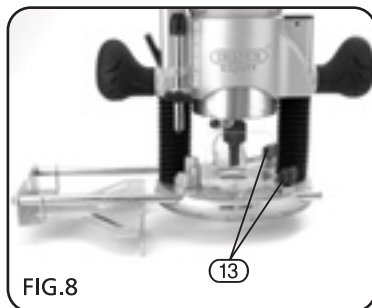

FIG.8
9.4 PARALLEL GUIDE ROUTING - FIG. 8